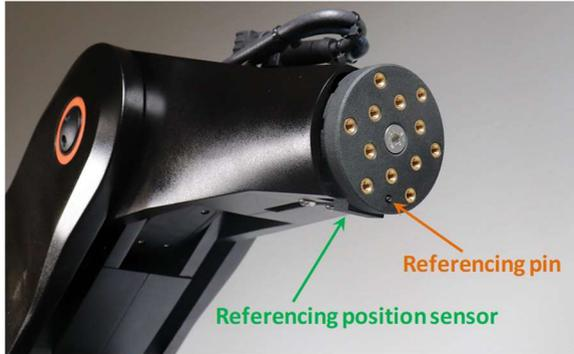

Figure 7.4 Referencing tools of Axis 5.
- This pin should ideally be jogged close to the "referencing position sensor" before starting the referencing (Figure 7.4). This speeds up the referencing process of this particular axis.